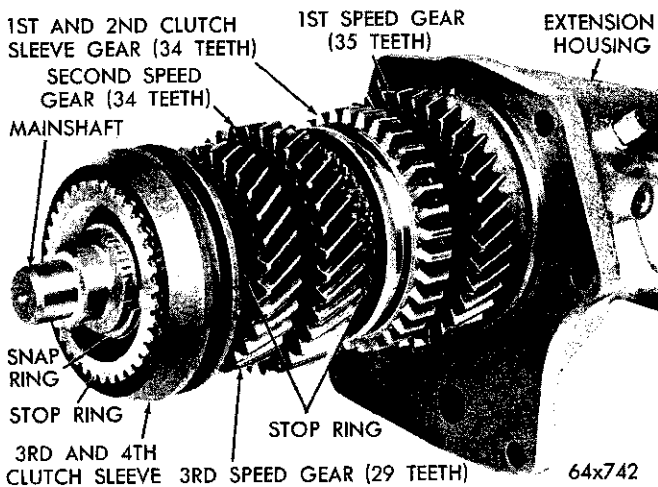

Fig. 8—Mainshaft Gear Identification
(12) Refer to Figure 8 for location of the various gears, synchronizer sleeves and clutches before disassembling the mainshaft.